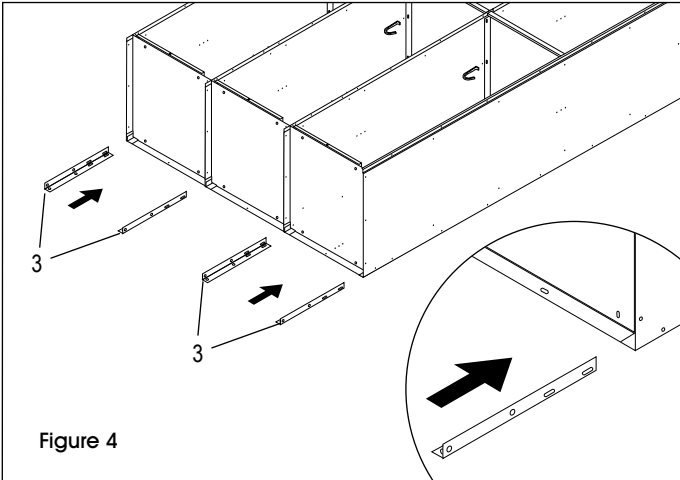

Figure 4
9. Insert legs (3) into the corner between the bottom and the side. Bolt the leg to the side using two bolts and nuts per leg. (See Figure 4)